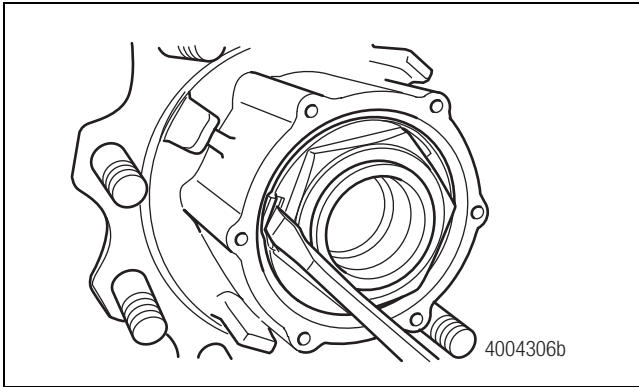

Figure 4.11
2. Use a screwdriver to release the stakes from the stake washer flange. Figure 4.11.